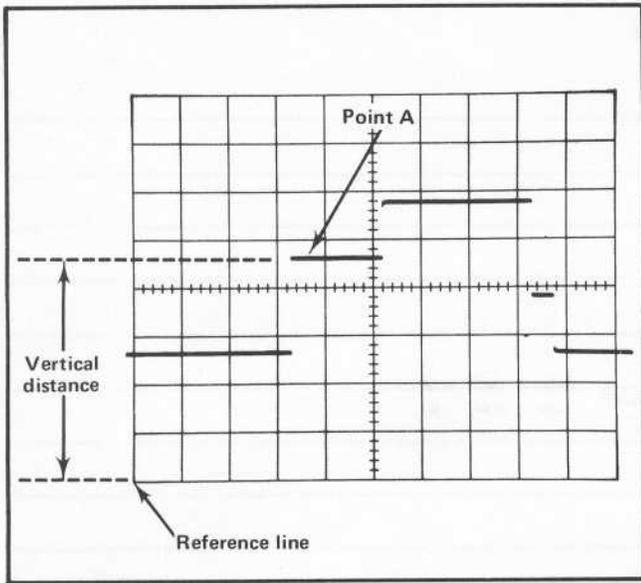

Fig. 2-2. Measuring instantaneous voltage with respect to same reference.
6. Measure the distance in divisions between the reference line and the point on the waveform at which the DC level is to be measured. For example, in Fig. 2-2 the measurement is between the reference line and point A.
EXAMPLE: Assume the vertical distance measured is 3.6 divisions (see Fig. 2-2) and the waveform is above the reference line using a 10X probe with a VOLTS/DIV switch setting of 0.5 V.